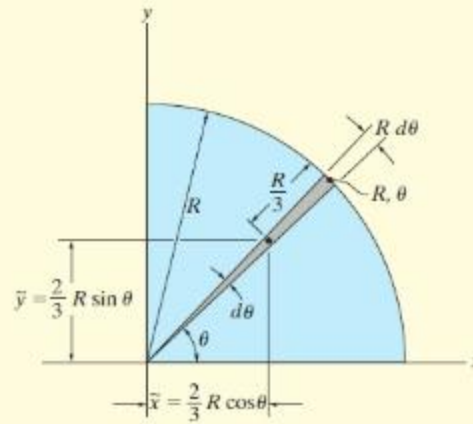

Fig. 9-11
Locate the centroid for the area of a quarter circle shown in Fig. 9-11.
**Differential Element.** Polar coordinates will be used, since the boundary is circular. We choose the element in the shape of a *triangle*, Fig. 9-11. (Actually the shape is a circular sector; however, neglecting higher-order differentials, the element becomes triangular.) The element intersects the curve at point  $(R, \theta)$ .